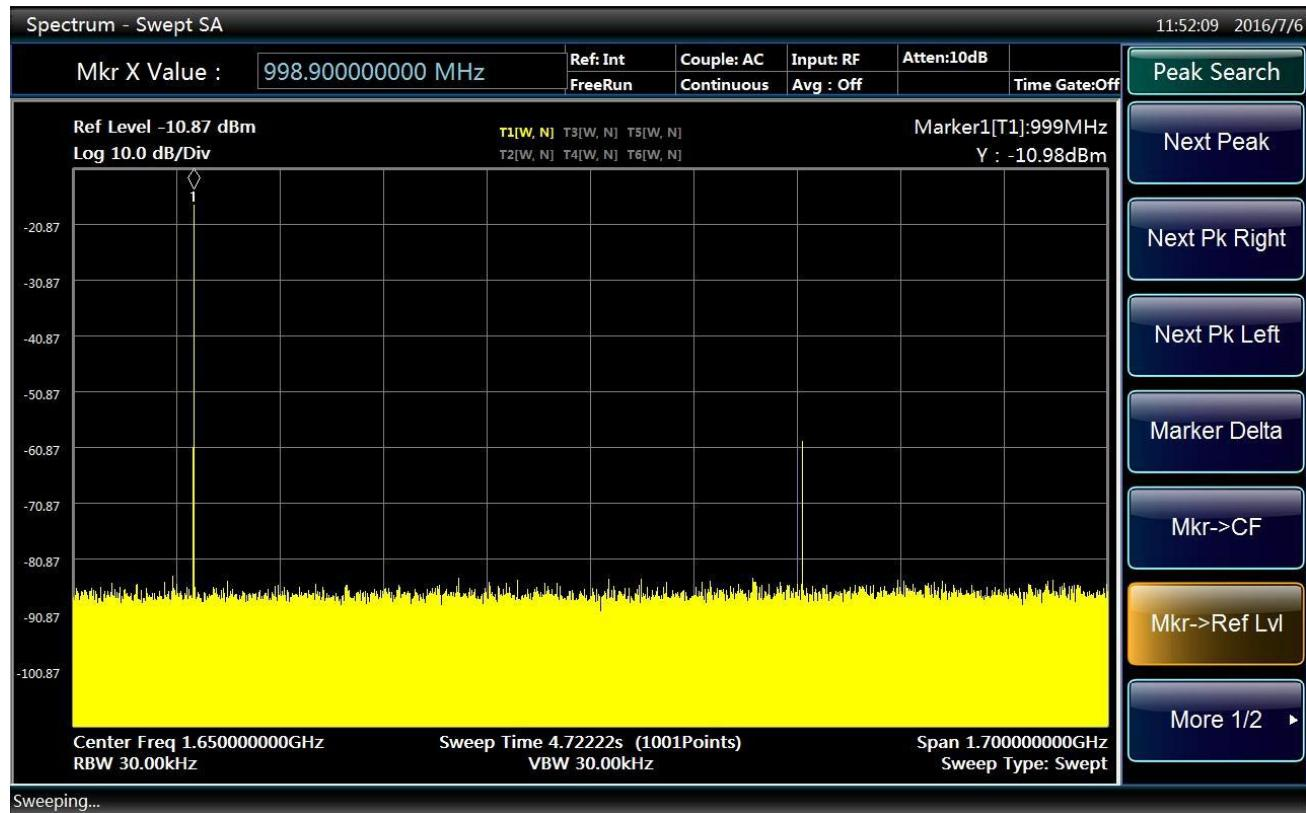

Fig. 4.18 Display interface of signal peak at reference level
- Press 【Peak Search】 and [Marker → Ref Level] to obtain an interface as shown in Fig. 4.18.